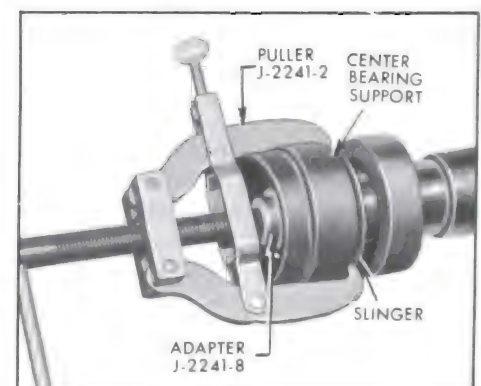

Figure 6-50 Removing Center Support and Bearing
2. Place the smaller O.D. end of adapter J-2241-8 (Differential side carrier bearing puller adapter, 1955 and previous) into the splines of the propeller shaft. Position Differential side bearing puller J-2241-2 as shown in Figure 6-50. Pull the center support and bearing assembly from the